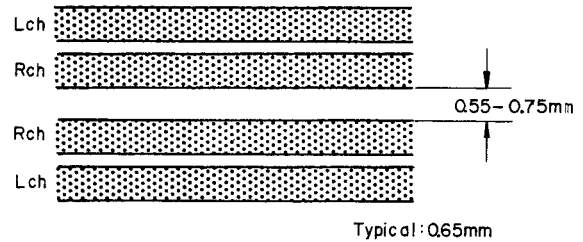

Fig. 5.14
- (g) Immerse the recorded tape in a magnetized developing solution. In turn, check to insure that the recording head tracks across the center are separated with a distance of 0.55 to 0.75 mm (typically 0.65 mm) as illustrated in Fig. 5.14.